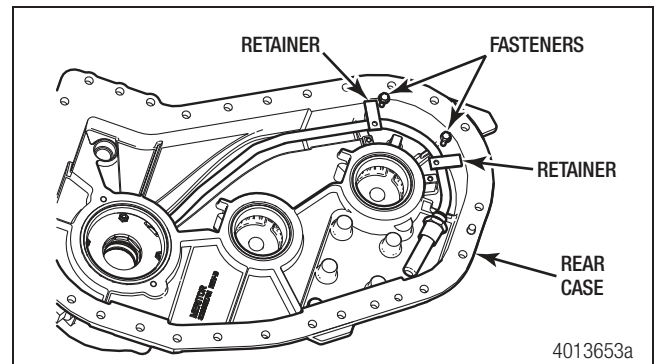

Figure 6.22
2. Install the two retainers and fasteners to secure the line in position. Figure 6.22.